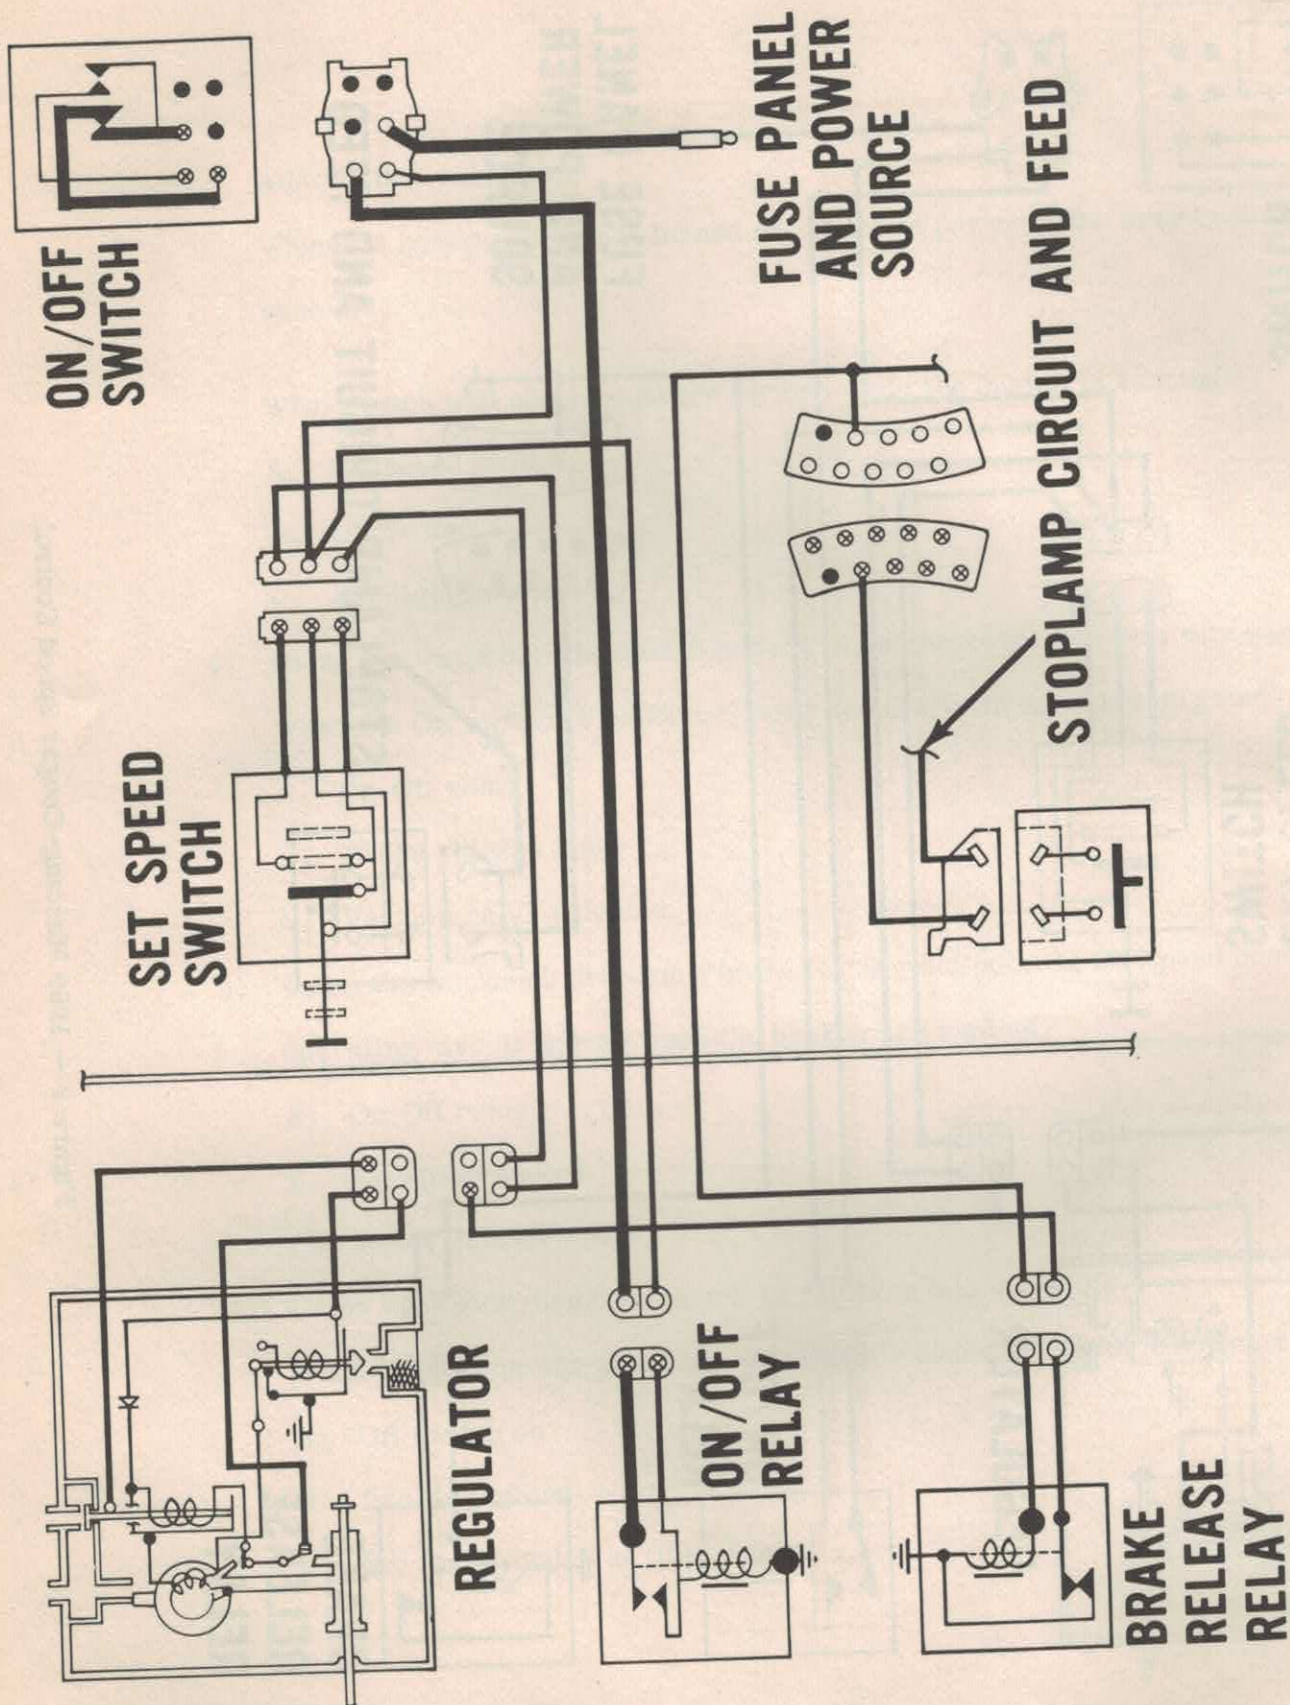

Figure 10 — 1969 Mustang-Cougar Power Circuit
3. Open your workbook to the circuit diagram (Figure 10) and follow the circuit through the on/off switch to the on/off relay.